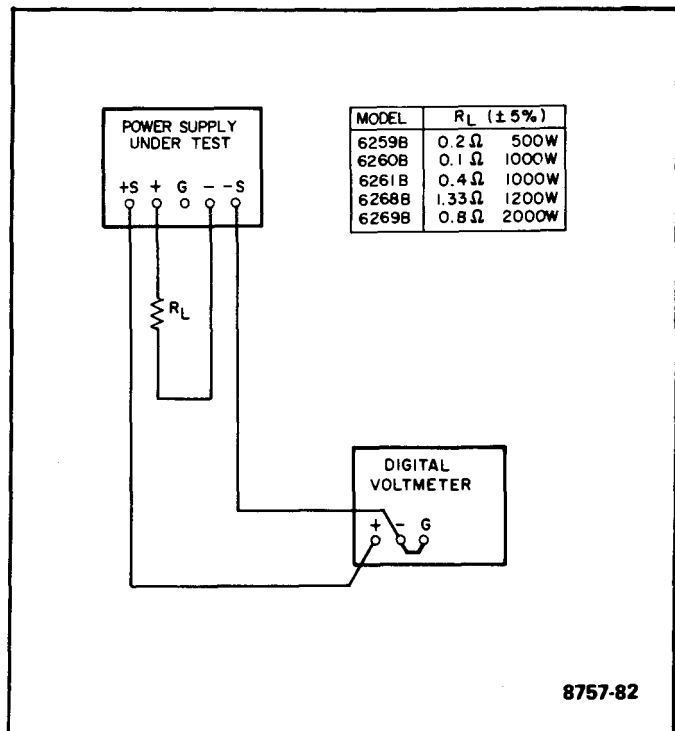

Figure 5-1. Constant-Voltage Load Regulation Test Setup
- a. Connect load resistor ( $R_L$ ) indicated in Figure 5-1 across output terminals of supply.
- a. Connect test setup shown in Figure 5-1.
- a. Connect load resistance and digital voltmeter as illustrated in Figure 5-1.